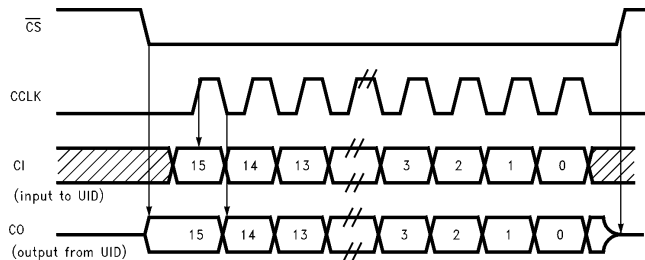

FIGURE 3a. TP3410 Normal MICROWIRE Clock Format
1. CCLK idling LOW when  $\overline{CS}$  pin is inactive HIGH, pulsing LOW/HIGH/LOW for 16 clocks then returning back to LOW for idle condition. Data is output on CO pin on the negative edge and data sampled in on the positive edge of CCLK. This format (shown in *Figure 3a*) is normally used with NSC's microcontrollers from the HPC or the COP8 family.